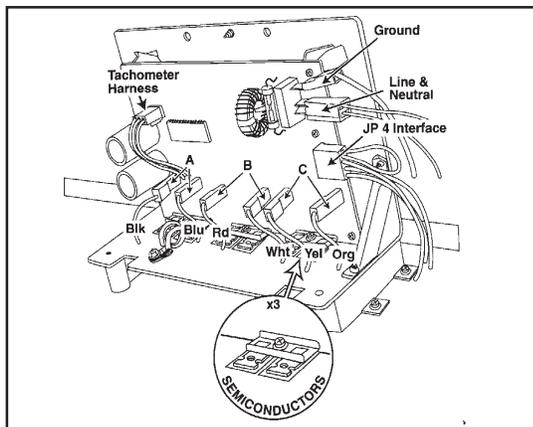

Figure 2-6
Refer to section titled *Motor Control* for board identification of A, B and C terminal/harnesses (*Figure 2-6*). Also, see the wiring schematic for harness identification.
- A. Check the 10-amp fuse located on the control board, either visually or with an ohm meter. If bad, completely replace motor control/wire harness assembly (**Figure 2-6**).
- B. If the fuse is functioning, visually check the six semiconductors on the heat sink for any damage. If damaged, replace motor control/wire harness assembly complete and check motor windings for damage (**See Drive Motor**). Replace motor if necessary (**Figure 2-6**).
To gain access to the motor control board terminals (*Figure 2-6*):
6. Reconnect the ground wire, line 1 and neutral wires. Leave the JP4 connector off the board (*Figure 2-6*).